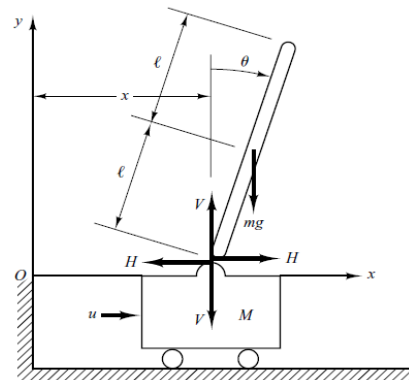

FIG: Q6A
- 6A.** Consider the inverted – pendulum system shown in figure Q6A. Assume that the mass of the inverted pendulum is m . The center of gravity of the pendulum is located at the center of the rod. Assuming that θ is small, derive the differential equation describing the whole system. **5**